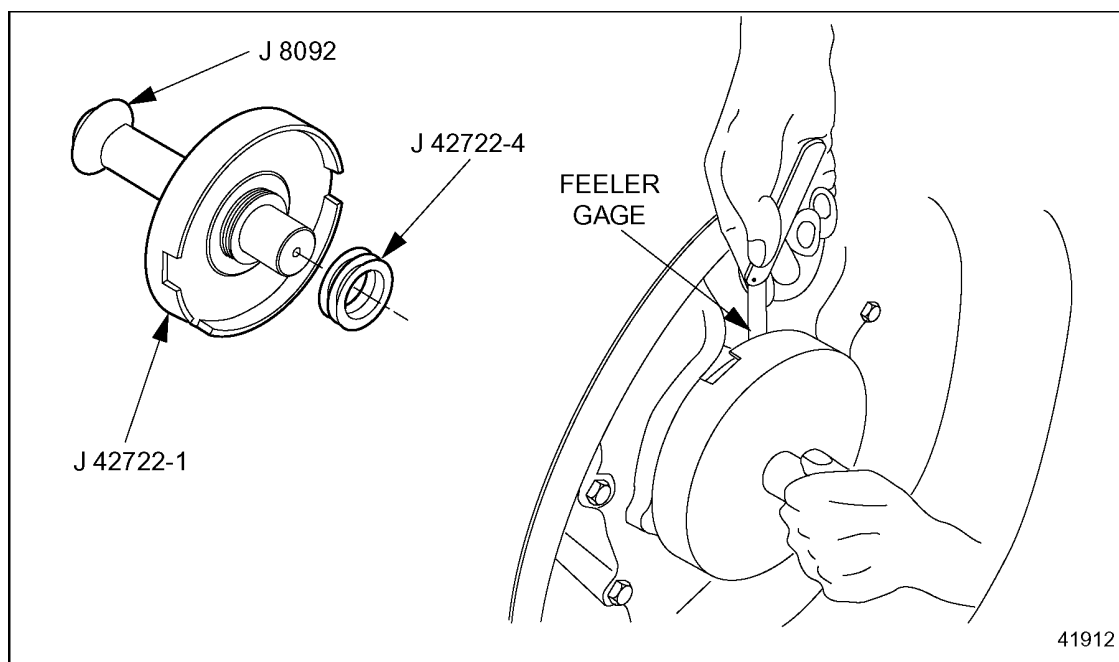

Figure 9-16 **Installation of Shims**
- [d] Attach driver handle, J 8092, onto the setting tool, J 42722-1. See Figure 9-16.
- [e] Stack approximately 0.100 in. of shims, J 42722-4, onto the nose of the setting tool. See Figure 9-16.
- [f] Add or remove shims until 0.005 in. gap is measured at four points (90 degrees apart) with a feeler gage. See Figure 9-16.